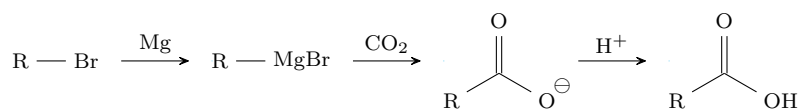

Figure 4.7: Carboxylation of Grignard reagents.
- Carboxylation of Grignard reagents (Figure 4.7).